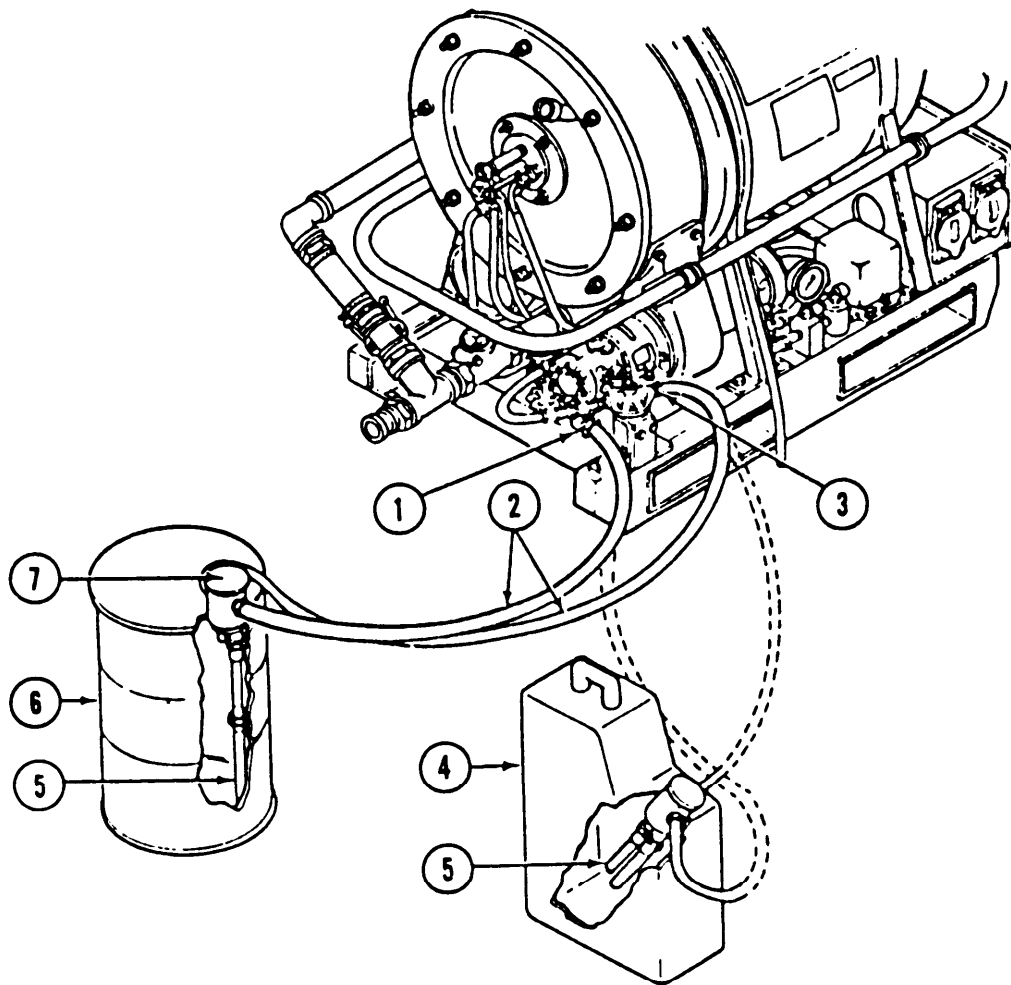

Figure 2-14. Water Heater Fuel Line connection
- (1) Obtain two fuel lines (2, figure 2-14).
Ensure that fuel lines (2, figure 2-14) do not touch or cross water hose, power cables, or exhaust ducts. Melting/damage can occur causing leaking fuel and water or electrical hazards. Death by electrocution, fire, or explosion could result.